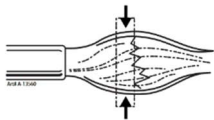
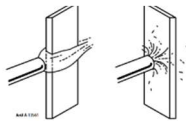

Figure 4: Maximum Heat Zone
Figure 5: Heat Angle
2. **Heating Technique:** The maximum heat zone of the air/fuel tip is very concentrated. It is located between 1 and 2 tip diameters away from the end of the tip (Figure 4). If you hold the torch too close or too far away, there will be noticeably less heat. The angle at which the heat is applied can also increase the target heat (Figure 5).